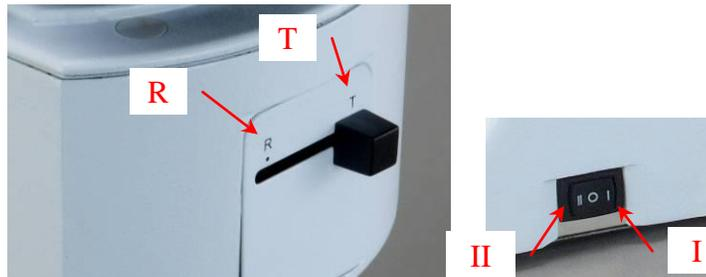

Fig. 12
- 2) Set the light path switch (8) to the desired position (“R” for reflected light, “T” for transmitted light, see Fig.12).
- 3) Press the power switch (16) to turn the light on. (“I” and “II” for reflected and transmitted light separately, depend on which power socket the light using. Just try and find).
- 4) Rotate the intensity dial (32) to increase or decrease the brightness.